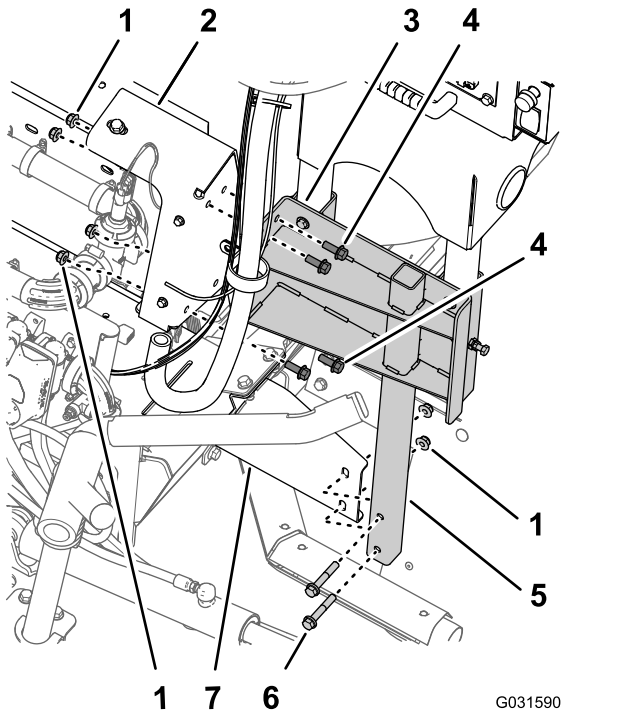

Figure 182
- Align the holes in the support channel for the pivoting-hose reel with the holes in the manifold mount for the sprayer valves (Figure 182).
- Align the holes in the lower tube frame for the pivoting-hose reel with the holes in the mounting bracket at the right frame channel of the machine (Figure 182).
- Assemble the support channel to the manifold mount (Figure 182) with the 4 flange-head bolts (3/8 x 1 inch) and flange locknuts (3/8 inch) that you removed in step 3 of Removing the Pivoting-Hose Reel from the Manifold Mount (page 15).
- Assemble the lower tube frame to the mounting bracket (Figure 182) with the 2 flange-head bolts (3/8 x 2-1/4 inches) and 2 flange locknuts (3/8 inch) that you removed in step 2 of Removing the Pivoting-Hose Reel from the Manifold Mount (page 15).